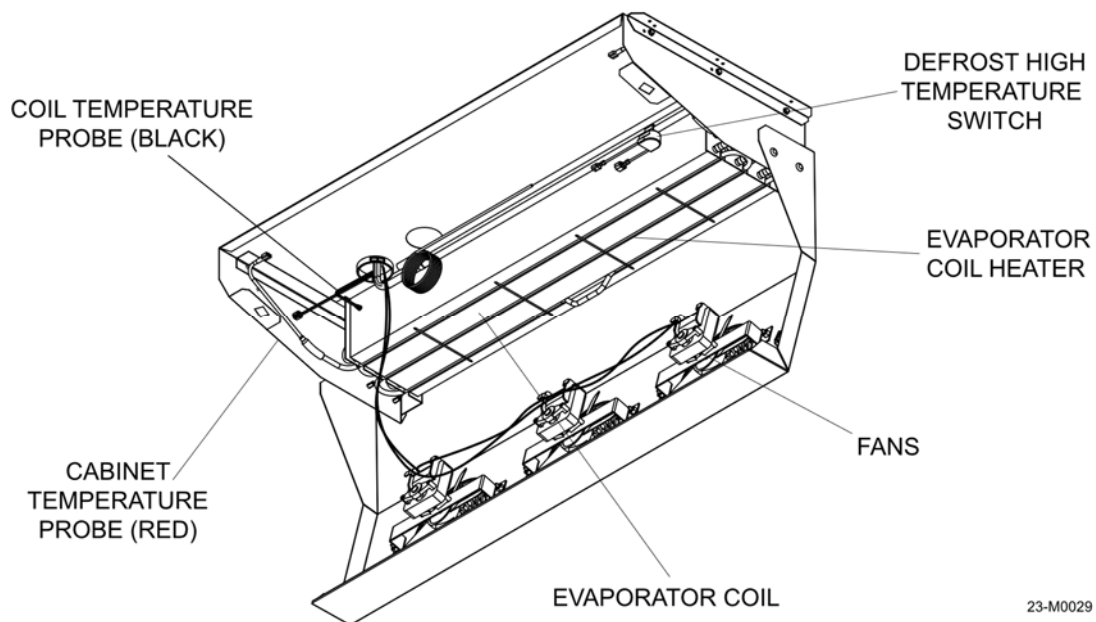

Figure 5-7
4. Inspect the evaporator for dust and dirt; clean the coils with compressed air if necessary. Make sure the evaporator fans spin freely and check them for loose blades or hardware; repair or replace them as necessary, refer to Figure 5-7.